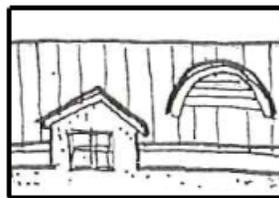

Figure 9
- Dormers or other additional roof elements facing primary street frontage. See Figure 9.